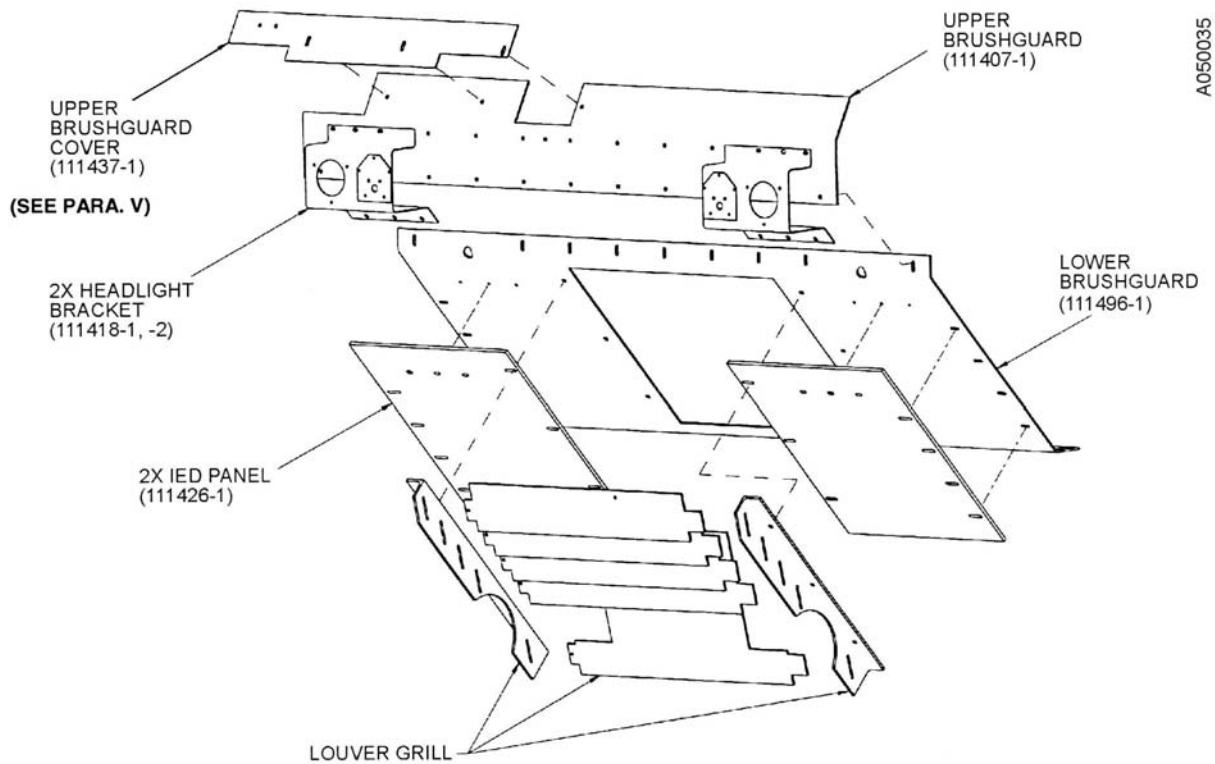

Figure 24. Front HEMTT Armor Kit locations.
- e. Using a lift sling and material handling equipment (hoist, forklift, etc.), position the Lower Brush Guard (P/N 111496-1) over the grille area of the front of the cab, and position the two armor panels (P/N 111426-1) on the Lower Brush Guard, and then attach the items to the cab using eight bolts (3/8 - 16 x 1.500 LG) and eight washers (3/8 in. ID, USS 1 in. OD); four bolts and washers are installed on each side of the Lower Brush Guard. Hand-tighten the eight bolts. Remove the material handling equipment and lift sling from the Lower Brush Guard (See Figure 24).